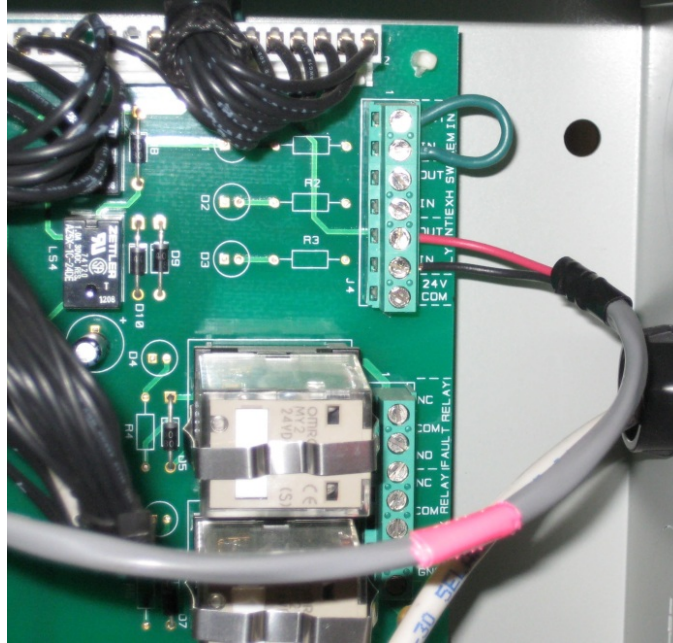

Figure 2-14: Sequencing Isolation Valve Installed
2. The boiler's shell harness has one unused cable. One end of this cable is connected to the DELAYED INTERLOCK IN terminals in the I/O board (see Figure 2-14) while the other end contains a Molex connector with a jumper wire inserted in it (this jumper wire allows units that do not have a sequencing isolation valve to operate normally). Find the free end of this cable inside the unit's enclosure.